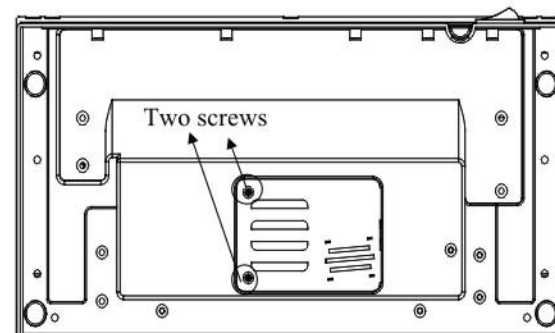

Fig.1
- c. Loosen the screws holding the stove cover panel to the main body of stove (see Fig.1).